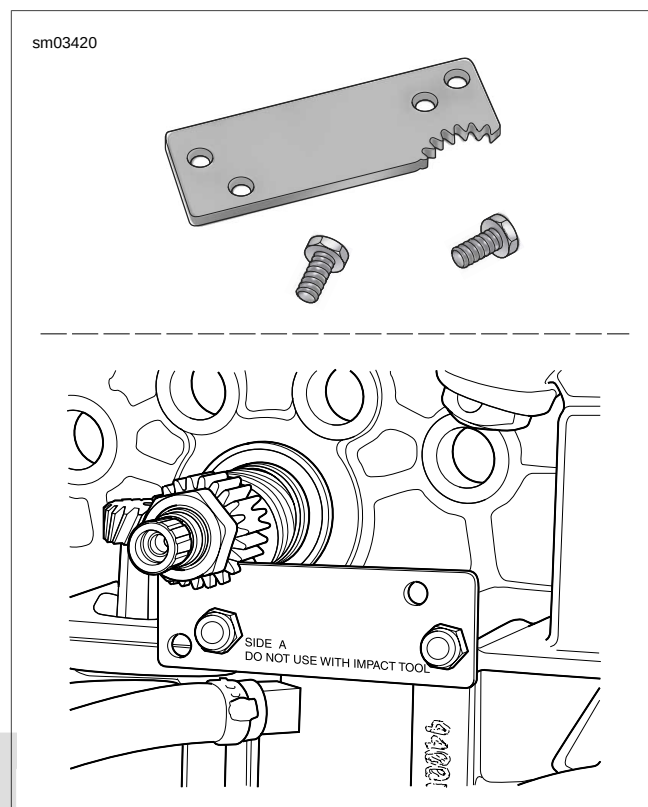

Figure 3-94. Crankshaft Locking Tool (Part No. HD-43984)
3. See Figure 3-94. Install CRANKSHAFT LOCKING TOOL (Part No. HD-43984) over pinion shaft. Install nut on pinion shaft. Tighten nut to 19-21 ft-lbs (26-29 Nm). Then tighten nut an additional 15-19 degrees of rotation. Remove CRANKSHAFT LOCKING TOOL (Part No. HD-43984).